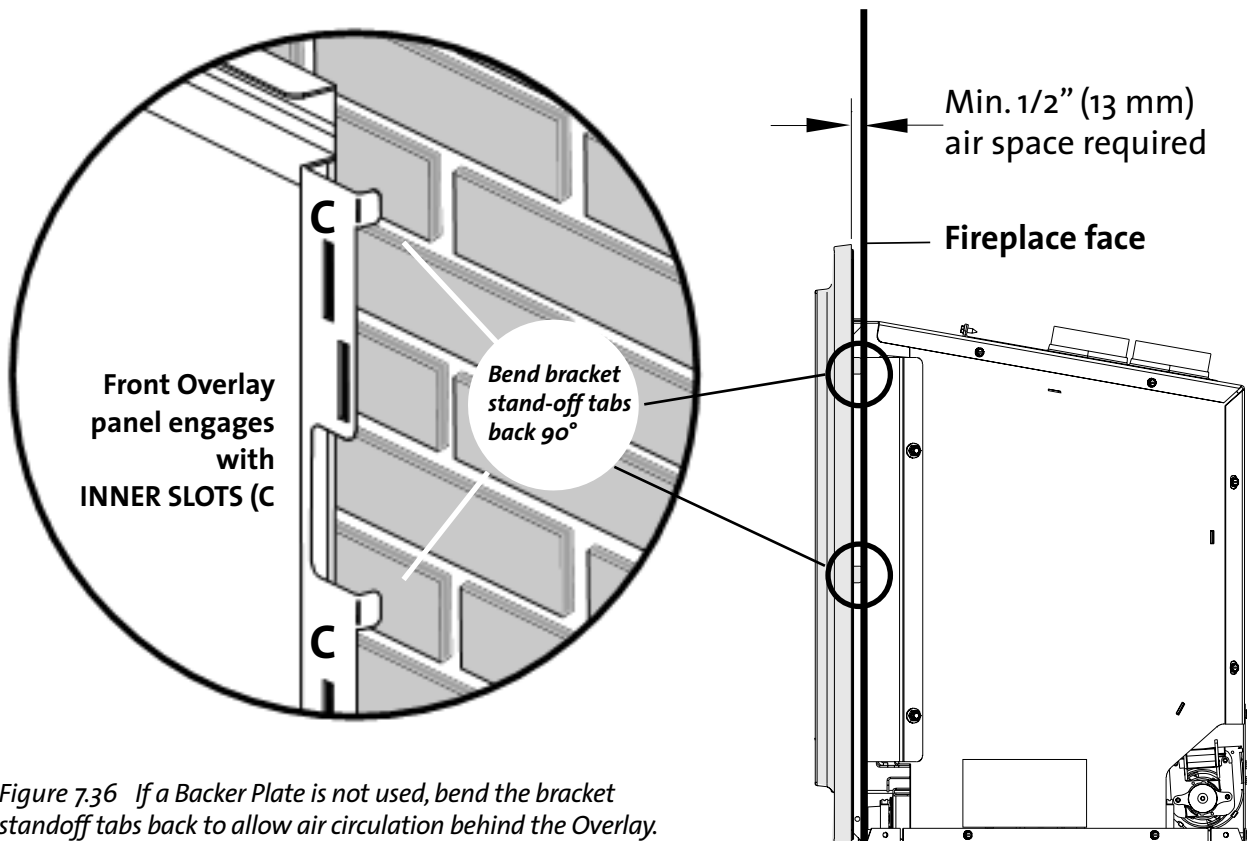

Figure 7.36 If a Backer Plate is not used, bend the bracket stand-off tabs back to allow air circulation behind the Overlay. See detail.
The Overlay hanger brackets engage with the *inner slots (C)* through the *front* of the firebox mounting brackets. See fig. 7.36.
**WARNING!** See Fig. 7.36.